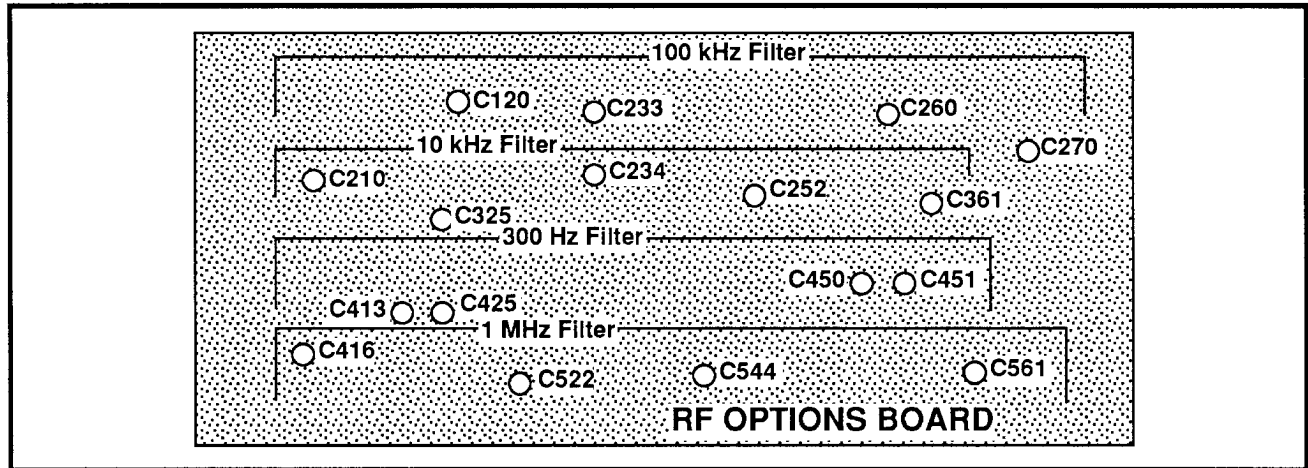

Figure 4-7. Option 14 and 300 Hz Filter adjustment locations.
(5) Save the display in one of the DISPLAY STORAGE registers.
(6) Change the resolution bandwidth to 1 MHz.
(7) Adjust C561, C544, C522, and C416 on the RF Options board (Figure 4-7) for highest amplitude, best filter shape, and centering about the stored 30 kHz filter.
(8) Set the reference level for a full-screen display, and enable the VID FLTR.
(9) Enable bandwidth mode by pressing APPL 9 0 and entering −6 dB, then pressing BKSP and 0.
(10) Check bandwidth shape factor. The bandwidth at the 60 dB down point must not exceed 7X the bandwidth at the 6 dB down point.
(11) Check that the filter amplitude is −20 dBm, ±4 dB.
(12) Disconnect the signal from the RF INPUT.
(6) Adjust C270, C260, C233, and C120 on the RF Options board (Figure 4-7) for highest amplitude, best filter shape, and centering about the stored 30 kHz filter.
(7) Set the reference level for a full-screen display, and enable the VID FLTR.
(8) Enable bandwidth mode by pressing APPL 9 0 and entering –6 dB, then pressing BKSP and 0.
(9) Check bandwidth shape factor. The bandwidth at the 60 dB down point must not exceed 7X the bandwidth at the 6 dB down point.
(10) Check that the filter amplitude is –20 dBm, ±4 dB.
(11) Disconnect the signal from the RF INPUT.